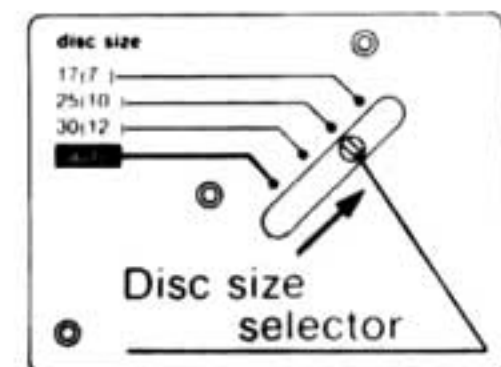

Fig. 4
3. Set the disc size selector knob to the 25cm position. (See Fig. 4.)